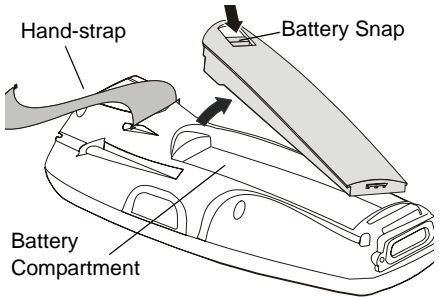

Figure 4. Battery Replacement
2. Remove the HC700-L hand-strap (see Figure 4).
3. Press the battery snap on the battery (see Figure 4) and pull away the battery from the HC700-L.